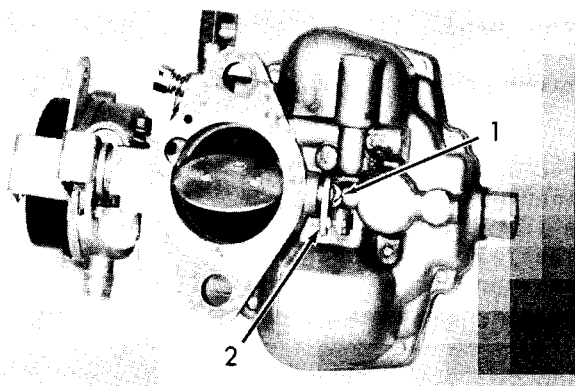

Fig. 10
Remove the throttle shaft arm screw (1, Fig. 10) and remove the throttle shaft arm and pin assembly (2).